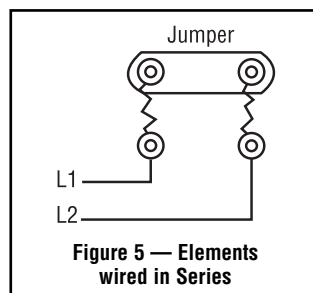

Figure 5 — Elements wired in Series
- A. **IMPORTANT** — The following heaters: HBT-30, HBT-36, HBT-40, HBT-4411, HBT-45 and HBT-50 consist of two (2) 120-volt elements which **must** always be wired in series when used on 240-volts. Failure to comply will result in heater burnout. See wiring diagram Figure 5 for wiring in series.
(Note: If wired in series, 2nd jumper strap is not needed. See Fig. 5)